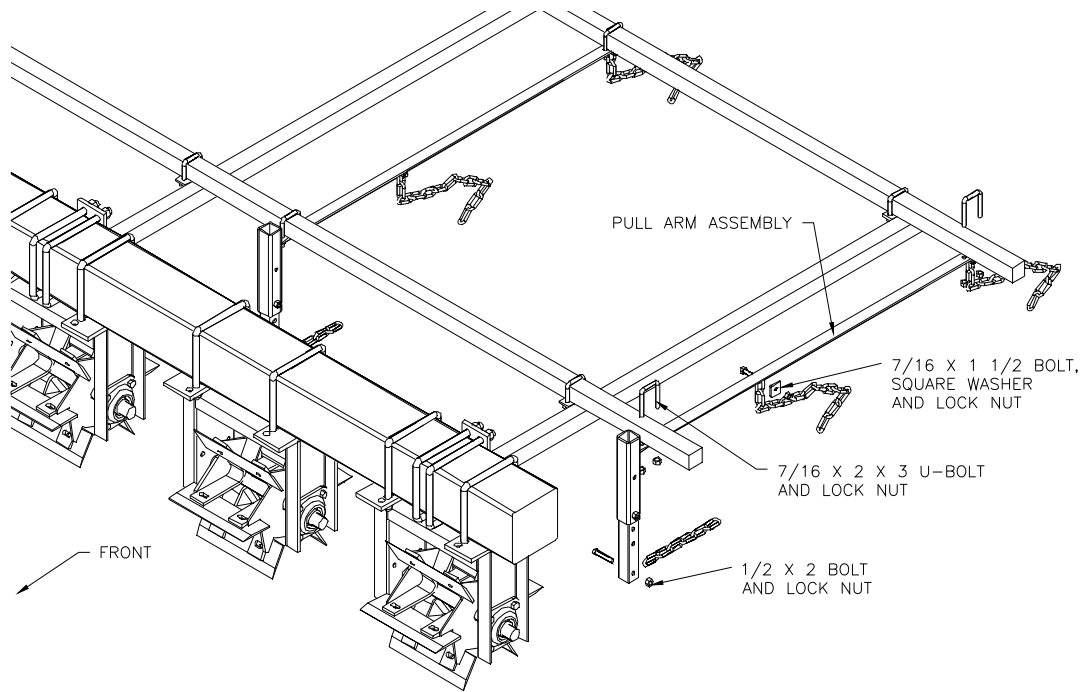

Figure 10
3. Once the harrow sections have been positioned in place, attach the 6 link pull chain and the 13 link lift chains as shown in Figure 10. Note the difference between the 3 and 5 bar sections.